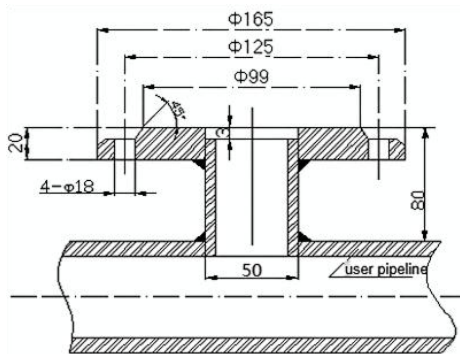

Fig.40
- ③ Determine the insertion depth of the insertion-type electromagnetic flowmeter (i.e., the position of the two electrodes on the sensor within the pipeline).
- ④ Install a DN50 ball valve onto the mounting base as shown in Figure 40. Make sure the longer cavity of the ball valve faces upward. Check that the valve can open and close fully. Tighten the compression nut and positioning screw. Ensure the sensor's direction indicator aligns with the fluid flow direction.
- ⑤ Determining the insertion depth of the insertion-type electromagnetic flow sensor: